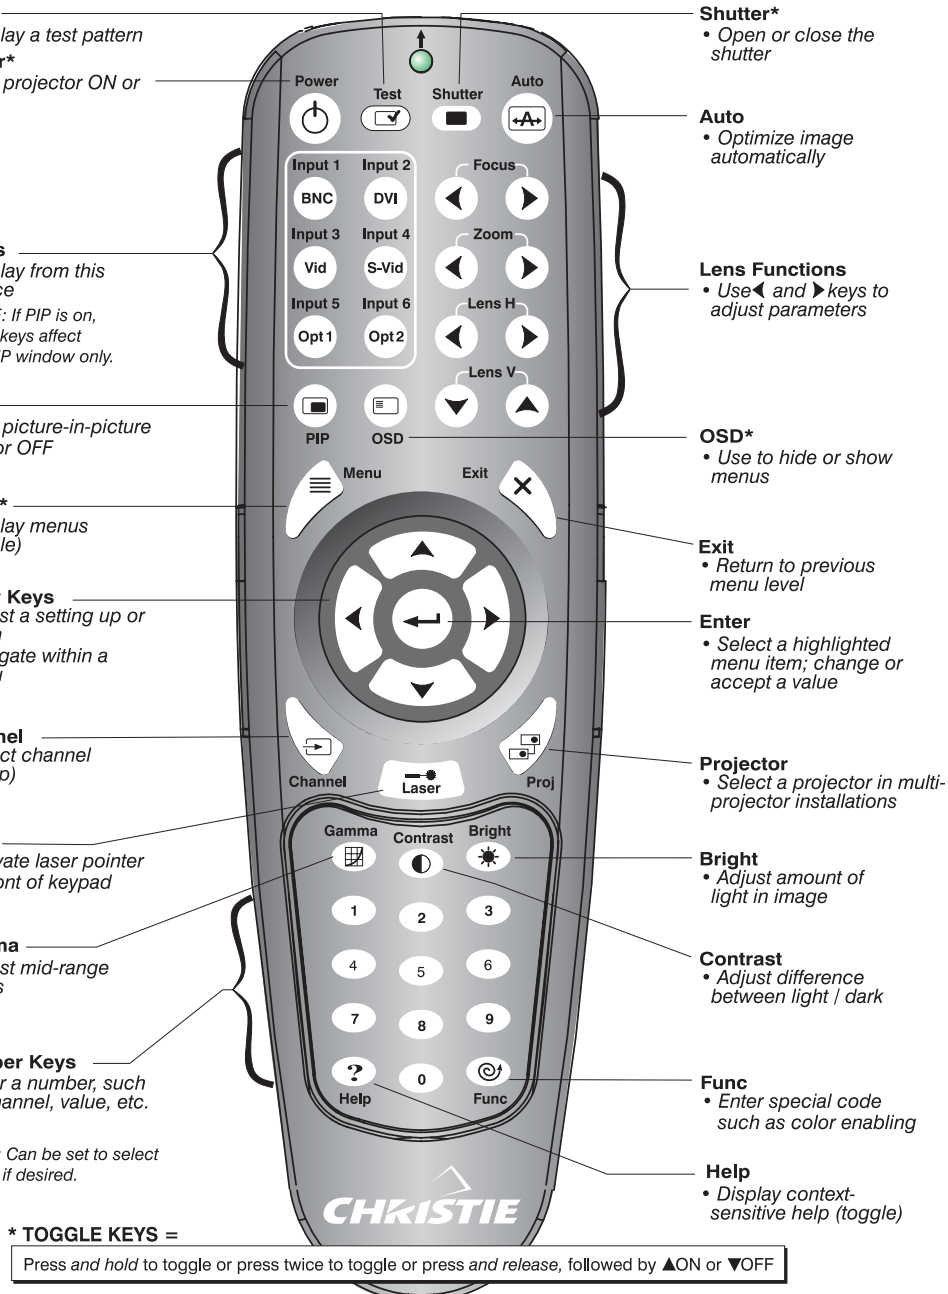

Figure 3.3. Remote Keypad
- 2) Note that three keys—Power, Shutter and OSD—are “press-and-hold” keys that do not function with a typical quick press-and-release keypress (see Figure 3.3).